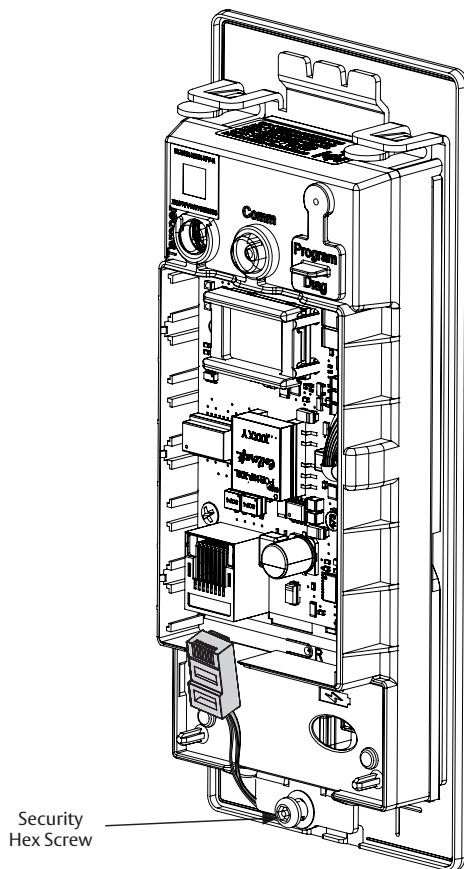

Figure 7-5A
NOTE: Before inserting PoE plug into connector, apply dielectric grease to top of plug, covering the pin area. (Figure 7-5A)
1. Once controller is securely in place, connect RJ45 male connector to female RJ45 port on controller board. (Figure 7-5A)